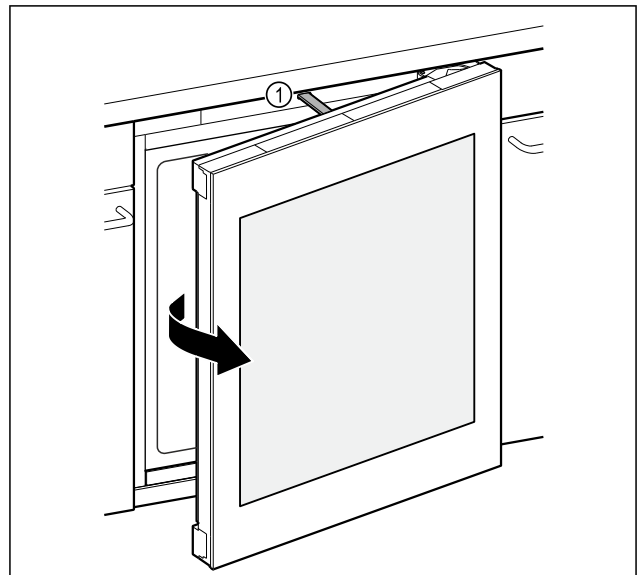

Fig. 84
- ▷ Push rod Fig. 84 (1) opens door approximately 7 cm.